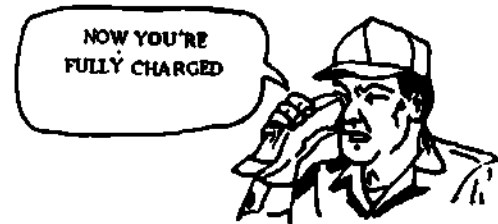

Fig 1-81. Sighting through the eyepiece.
- (d) Sighting through the eyepiece (fig 1-81), you will see the scale (fig 1-82). Take the reading from the point where the light and dark area meet. **NO TEMPERATURE CORRECTION IS NECESSARY.** Remember the left side of the scale is used for batteries and that the four short lines between the numbers are ten thousandths. For example, figure 1-82 shows that the light and dark area meet on the third line up from 1,250. Each line being .010, the reading would be  $1,250 + .030$  ( $.010 \times .030$ ) or 1,280.
- (1) Quantity. Estimate the amount of electrolyte that you will require. Determine what specific gravity is desired for this electrolyte. Table 1-3 has been included for this purpose. Further testing will be necessary to obtain the exact mixture desired. To use the table to estimate the specific gravity, you must use the same number of proportions as shown in the table. For example, if you were mixing sulfuric acid and water to have a specific gravity of 1.290, you must have eight parts of water and three parts of acid. The amount of mixture is determined by the size of the measuring container. For example, if you desired a mixture of 1.290 and used a pint measuring container, you would have 11 pints or 5.5 quarts. If you used a gallon measuring container, you would have 11 gallons of solution.